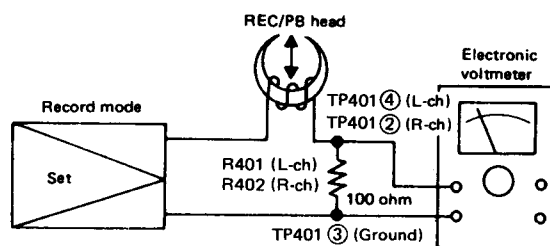

Figure 14-1
- Connect instruments as shown in Fig. 14-1, and adjust variable resistor VR405 or VR406 so that bias current available with the tape selector switch set at each position is shown in Table 14-1.